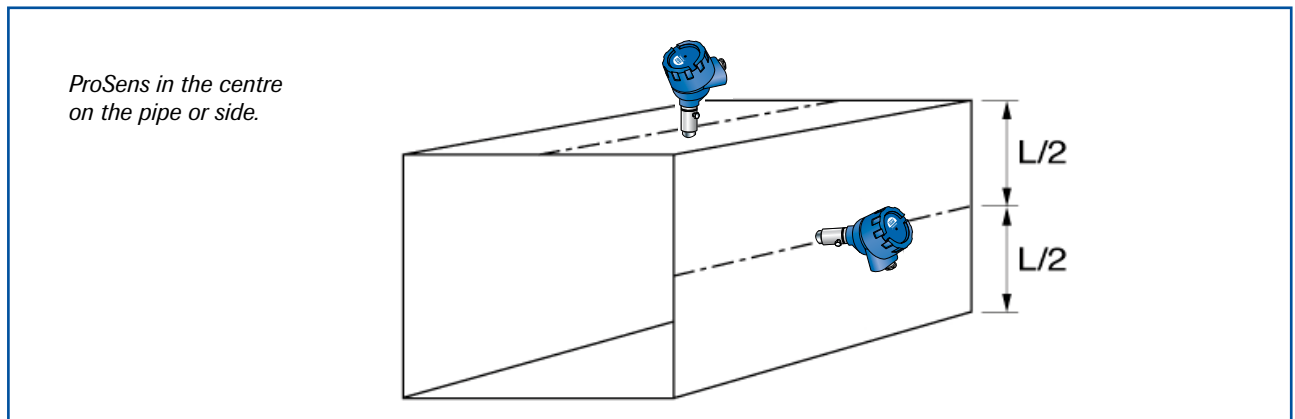

Fig. 3b: Square cross-section
3. In horizontal pipes with a square cross-section, the installation can be in the centre at the top or side. (See figure 3b)